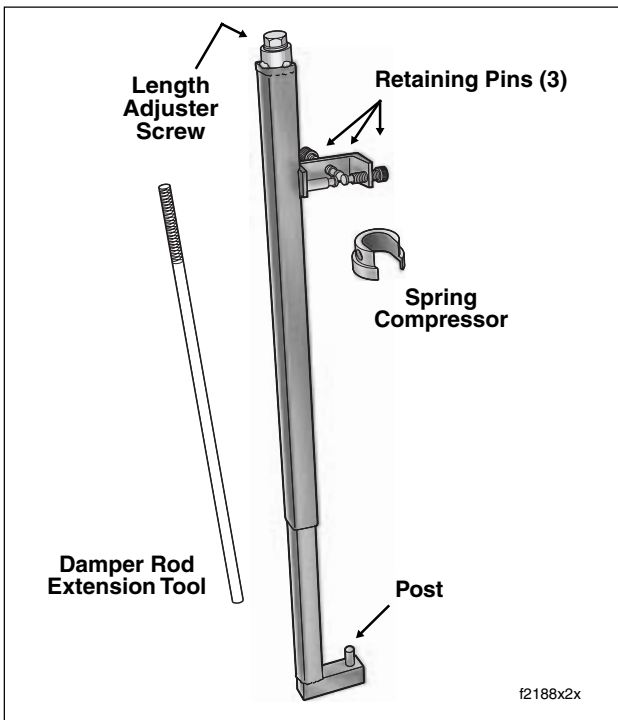

Figure 2-73. Fork Spring Compressing Tool (HD-45966)
9. Obtain the FORK SPRING COMPRESSING TOOL (HD-45966) shown in Figure 2-73. Install as follows: